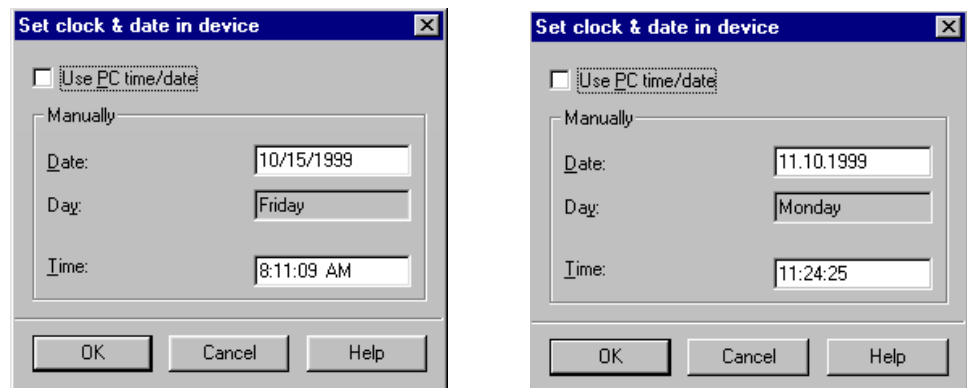

Figure 7-33 Dialog Field: **Set clock & date in device**
- Edit the input fields **Date** and **Time**. The format depends on your regional settings of the PC. See Figure 7-33.